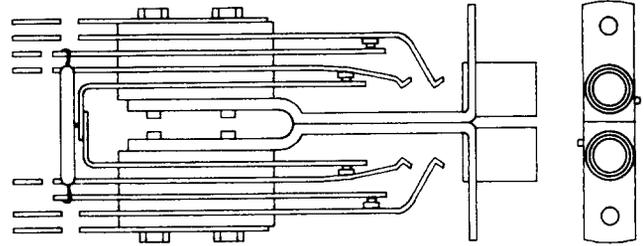

Fig. 15—KS-22222, L1, Jack
**2.08 KS-22222, L1:** The KS-22222, L1, jack (Fig. 15) is a miniature twin, 3-conductor jack having two frames in back-to-back construction. The jack has two spring pileups with a break contact on